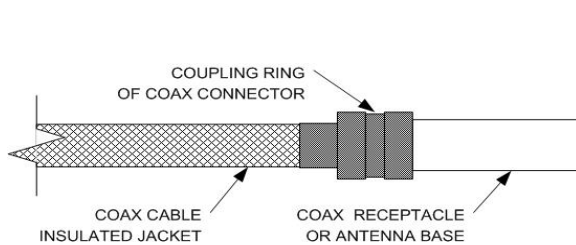

Figure 1
3.3.2 Begin wrapping the StretchSeal Tape around the connector to be protected, below the coupling ring of the mated coax connector. (see figures 1 & 2) Stretch the tape 25 to 50% to ensure good compression around the connector and coax cable. Remove release film as required.